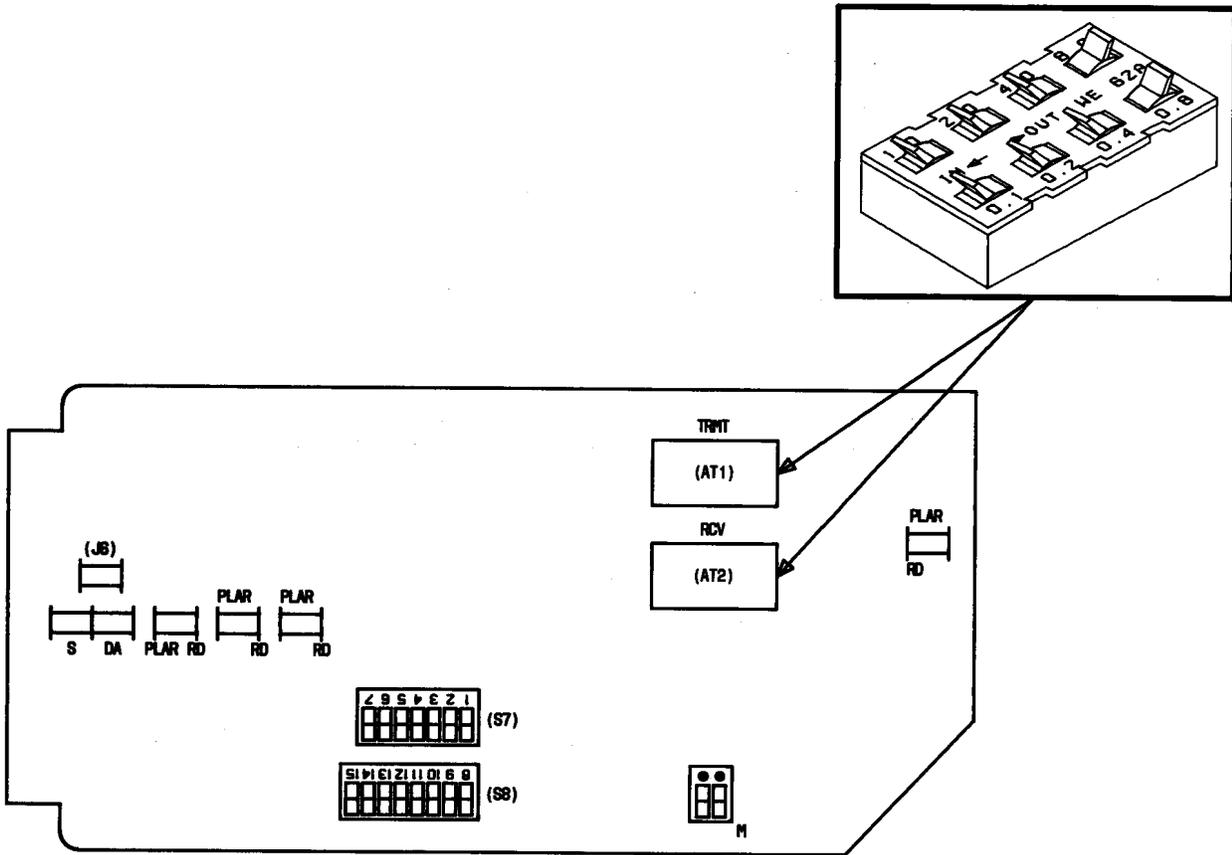

Fig. 1—2-Wire RD/PLAR Channel Unit
other station out of a group of 15 on the same bridge. Table A lists these units with their schematic (SD) and circuit description (CD) numbers. Figures 1 and 2 show a pictorial view of the component side of each unit.
**3.01** Options for the 2-wire and 4-wire RD/PLAR units are shown on Fig. 1 and 2, respectively. Table B lists and defines the 2-wire RD/PLAR options and Table C lists and defines the 4-wire RD/PLAR options. Options necessary for a specific circuit will be listed on the circuit layout record card (CLRC) or work order record details (WORD) document for that circuit.